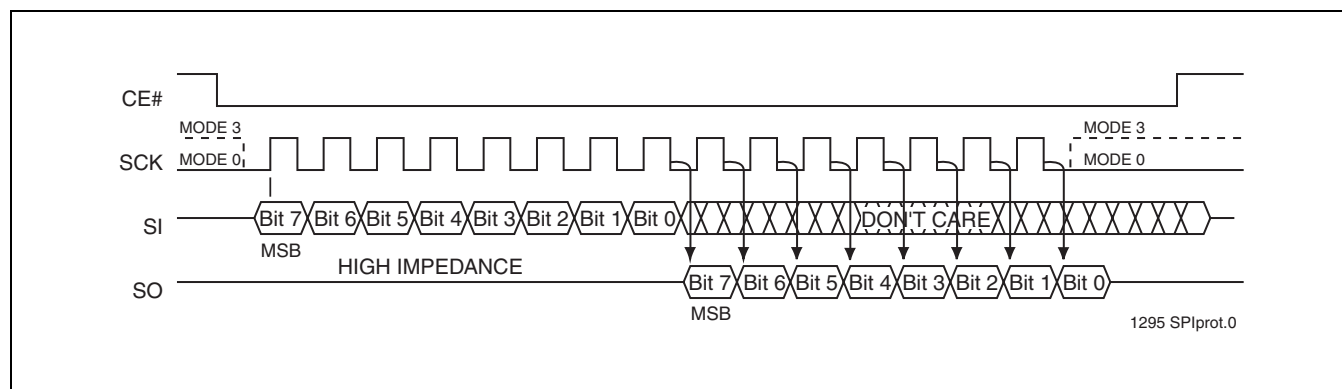

FIGURE 3: SPI Protocol
The SST25VF040B supports both Mode 0 (0,0) and Mode 3 (1,1) of SPI bus operations. The difference between the two modes, as shown in Figure 3, is the state of the SCK signal when the bus master is in Stand-by mode and no data is being transferred. The SCK signal is low for Mode 0 and SCK signal is high for Mode 3. For both modes, the Serial Data In (SI) is sampled at the rising edge of the SCK clock signal and the Serial Data Output (SO) is driven after the falling edge of the SCK clock signal.